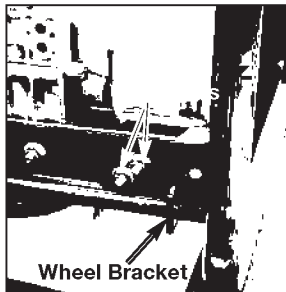

Figure 3
- Using two screws (8) and two lock nuts (7) install the wheel bracket (3) on the bottom right side of the engine support as shown in Figure 3. Do not tighten.